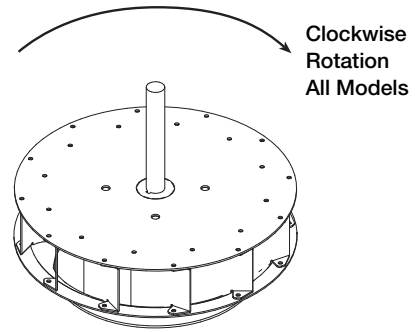

Figure 8
7. Check wheel rotation (viewing from the shaft side) by momentarily energizing the unit. Rotation should be clockwise as shown in Figure 8 and correspond to rotation decal on the unit. If wheel rotation is incorrect, reverse two of the wiring leads or check motor wiring for single phase.